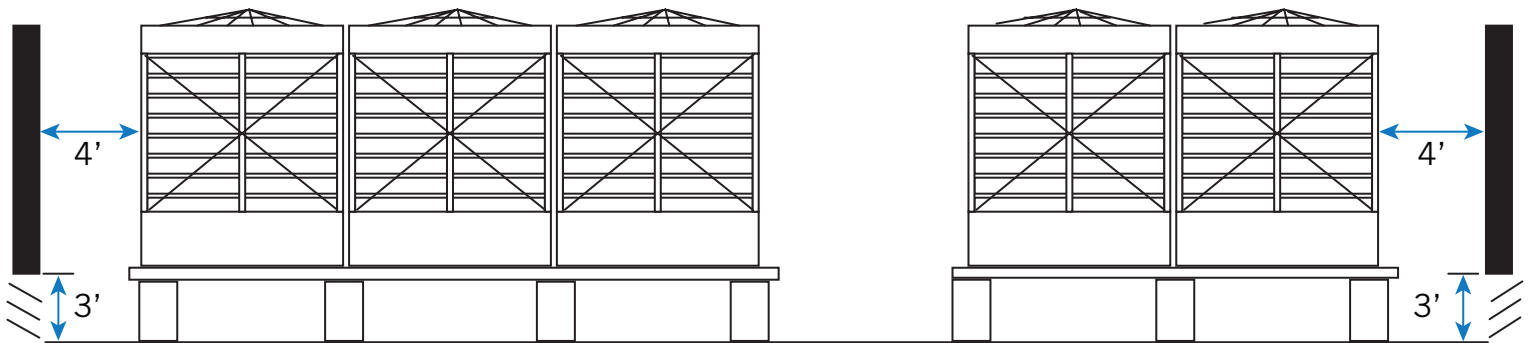

Figure 9: Elevation View of Recommended Enclosure
1. **Enclosure:** The bottom 3 feet of the well should be louvered a minimum of 50% net free area to allow air flow under the units as shown in **Figure 9** on **Page 13**.